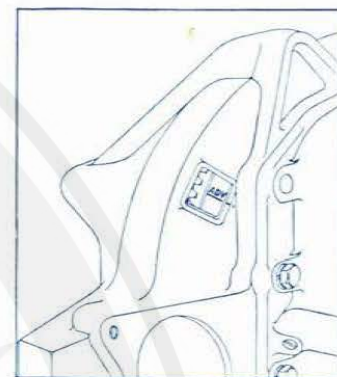

Fig. 2. Timing Mark
2. Uncover timing hole on side of flywheel housing. See Fig. 2.